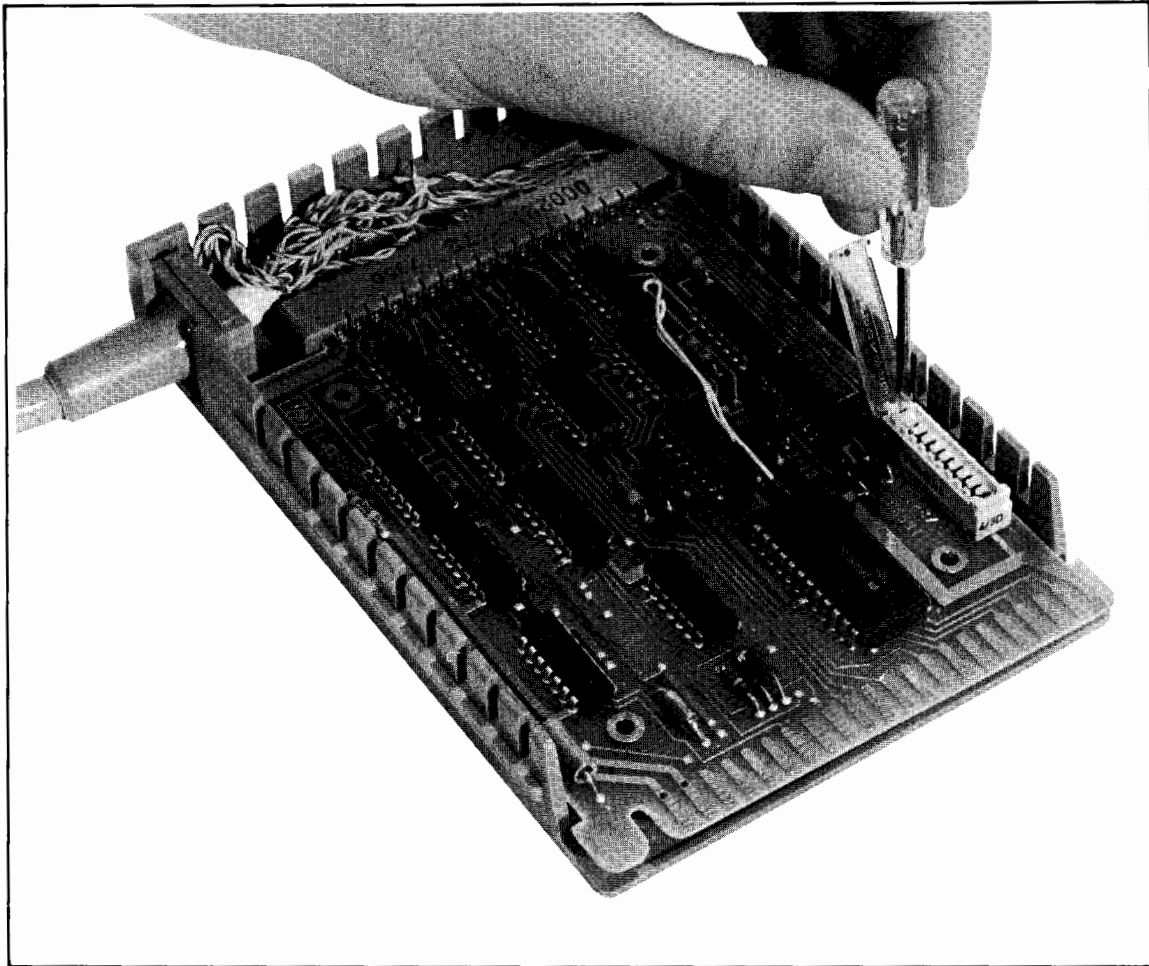

Figure 1. Setting the Interface Select Code
3. Raise the hinged cover on the select code switch (see Figure 1). Using a small flat-blade screwdriver, carefully rotate the selector tab until it is positioned at the desired select code number. Numbers are printed on the top cover of the switch (0 corresponds to select code 15). Before closing the cover, be sure the slot in the selector tab is at a right angle to the length of the switch.